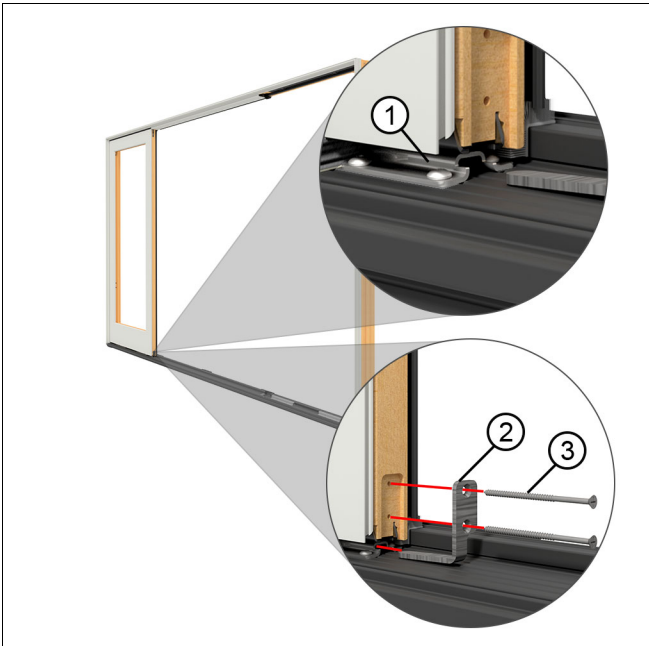

Figure 16
6. Install the sill to panel bracket. Slide the sill to panel bracket under the frame sill bracket (already attached to the sill). Fasten to the stationary panel with #8 x 3" flat head screws provided. See Figure 16.